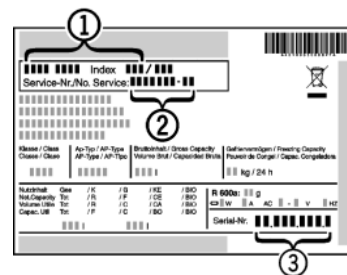

Fig. 20
- ▶ Read the appliance designation *Fig. 20 (1)*, service No. *Fig. 20 (2)* and serial No. *Fig. 20 (3)* off the type plate located inside the appliance on the left-hand side.
- ▶ Notify the customer service, specifying the fault, appliance designation *Fig. 20 (1)*, service No. *Fig. 20 (2)* and serial No. *Fig. 20 (3)*.